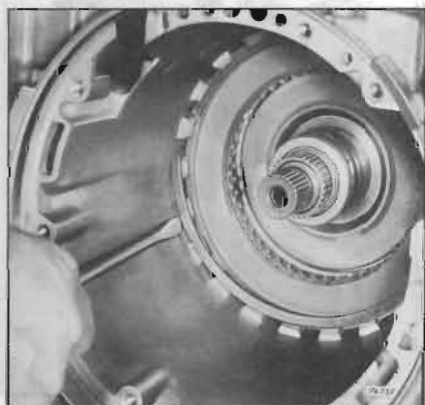

Figure 74-550
12. Remove intermediate clutch backing plate to case snap ring. See Figure 74-550.